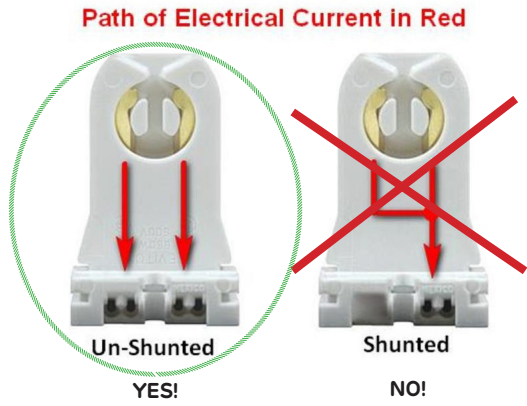

Figure 2: AC Connections - Below Diagrams Show 1, 2, and 3 Lamp Wiring Schemes
9. Make sure all sockets are replaced and wired accordingly to the appropriate wiring diagram (Figure 2).